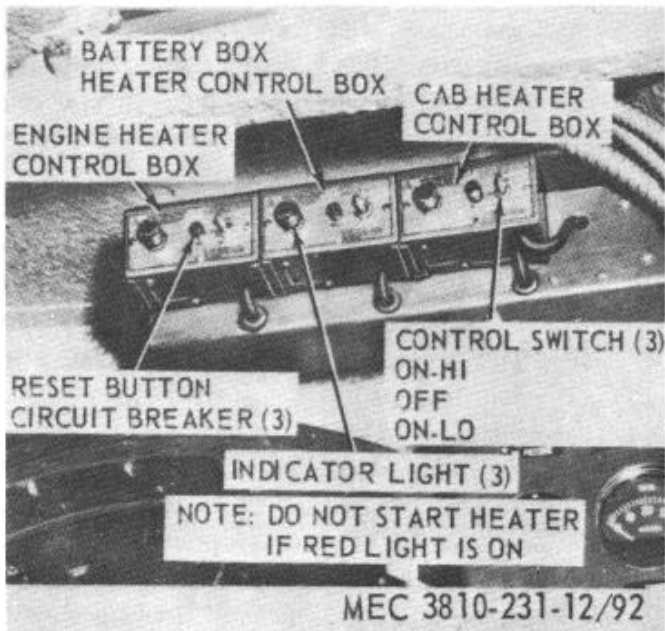

Figure 92. Heater control panel.
- (1) Depress lens of indicator lamp (fig. 92) to test for power availability. If lamp fails to light when depressed, operate reset switch and repeat the test. Replace a burned out lamp (para 160).
- (2) Move control switch to either ON position. When ON-LO is used, heat output is considerably less than at ON-HI position.
- (3) Preheating of combustion chamber lasts for approximately one minute before ignition cycle begins. Approximately one minute after ignition, the indicator lamp will glow and heater will operate.
a. *Indicator Light.* The indicator light (fig. 92) has two functions. By depressing lens, operator may determine power availability (para 152b(1)). Indicator light glows constantly when heater is operating in either LO or HI, and will continue to glow for approximately two minutes after heater is turned OFF (while cooling).
b. *Circuit Breaker Reset Button.* The circuit breaker (fig. 92) is a safety device installed in system to remove fire hazard of current overloads. To reset after tripping, press in on reset button.
c. *Control Switch.* The control switch (fig. 92) is a three-position toggle switch with ON-HI (up), OFF (center), and ON-LO (down) used to select required heater range.